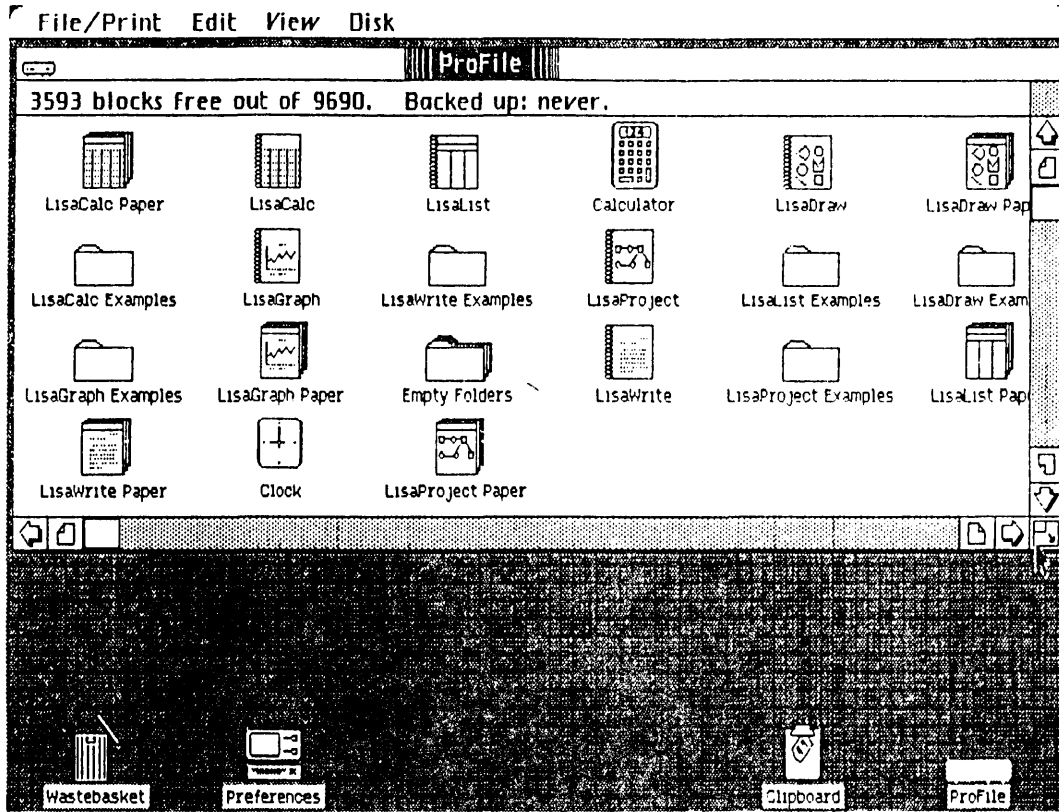

FIGURE 3
1. Open the ProFile icon (double-click). Use the mouse to enlarge the ProFile window to the approximate shape and size shown in Figure 3.
3. If necessary, use the mouse to enlarge the ProFile window so that you can see all the icons (see Figure 3).